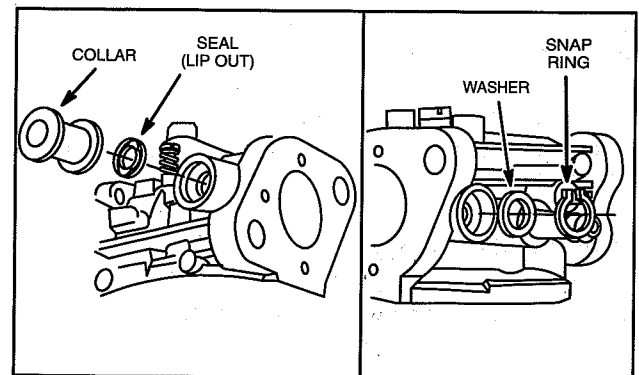

Fig. 18 – Install Throttle Shaft
6. Install washer and snap ring, Fig. 18.